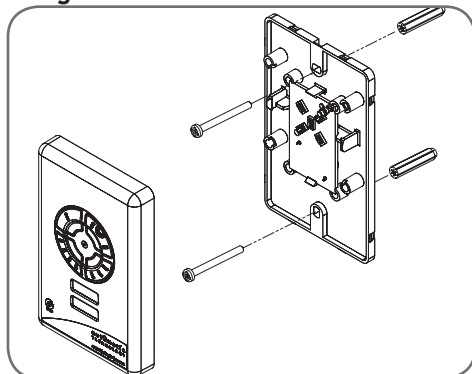

Fig. 8.5
- Mount the transmitter in a convenient location, yet out of reach of children and at least 1.5m off the ground (**Fig. 8.5**).